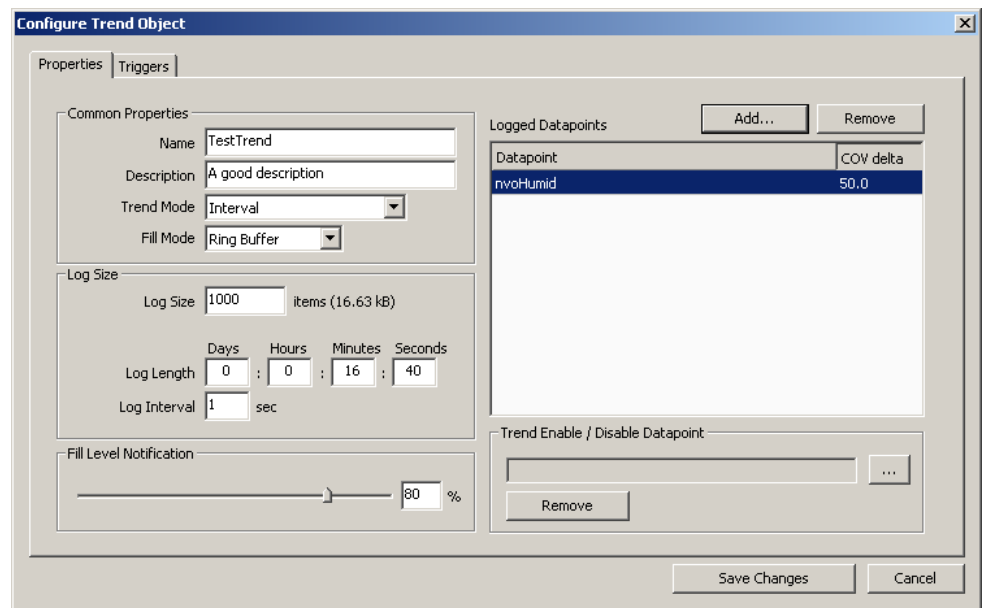

Figure 147: Basic Trend Object Configuration.
- In the **Create New Trend Object** dialog (shown in Figure 147) enter a name and optionally a description for the trend log object.